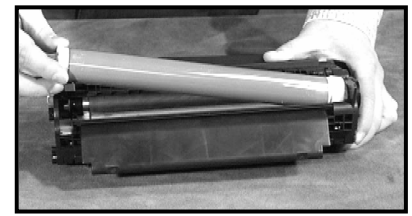

Figure 4
3. Pull back the OPC shutter and tape it back out of the way. Next pull the axle pin out of the small gear side of the drum (fig. 3). In addition, it is a good idea to remove the axle plate on the opposite side to prevent any damage to the OPC on removal. After the two pieces have been removed, lift out the OPC and inspect for damage. Replace if damaged (fig. 4)